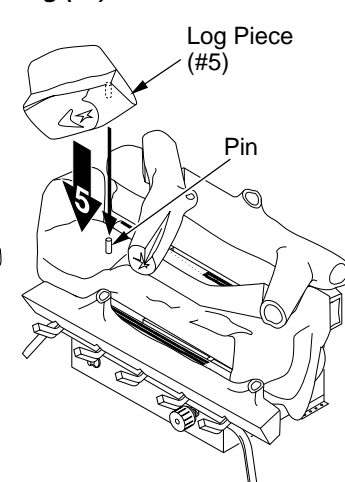

Figure 26 - Installing Log Piece (#5)
5. With knot to right side, place smaller log piece (#5) over the pin on the left side of the middle log. The smaller log will rest on front log against the "knot" on the left. See Figure 26.